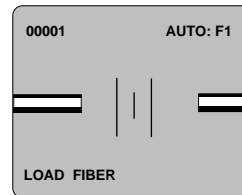

Figure 15
4.8 Verify that the fiber ends are displayed on the LCD.(Figure 15). They should not cross the center line or be out of view in the LCD. If necessary, open the clamps and reload the fibers.